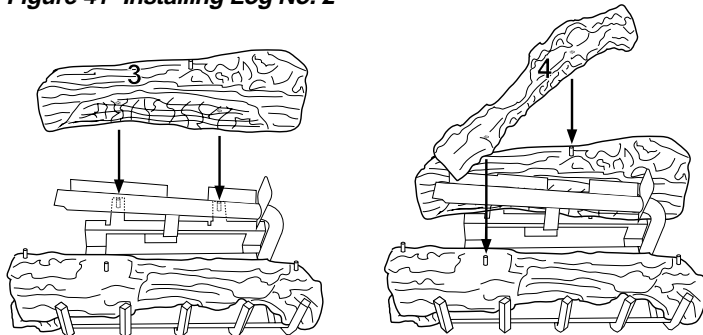

Figure 42 - Installing Log No. 3      Figure 43 - Installing Log No. 4
3. Place log #3 (rear log) onto pins on rear of grate as shown in Figure 42.